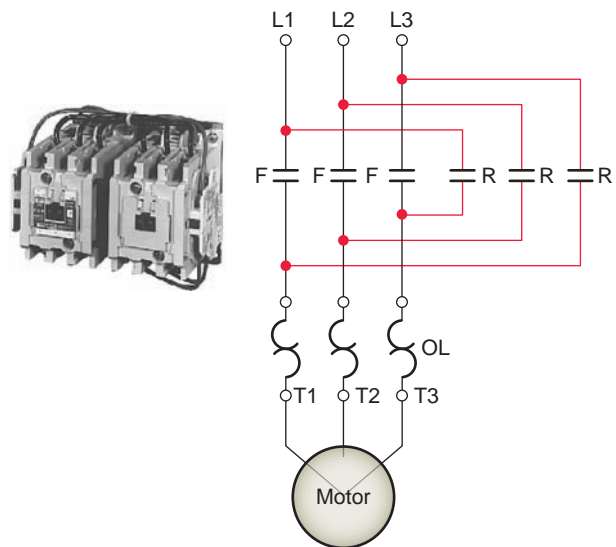

Figure 5-37 Power circuit for reversing a three-phase motor.
- Interchanging any two of the three main power lines to the motor reverses the direction of rotation. Figure 5-37 shows the power circuit for reversing a three-phase motor. The forward contacts F, when closed, connect L1, L2, and L3 to motor terminals T1, T2, and T3, respectively. The reverse contacts R, when closed, connect L1, L2, and L3 to motor